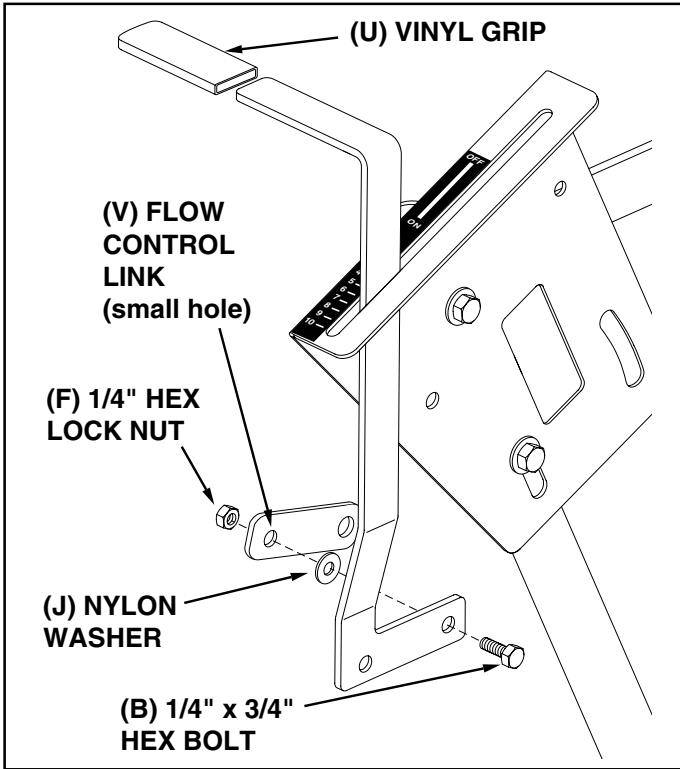

FIGURE 7
18. Assemble the vinyl grip (U) onto the flow control arm. See figure 7.
19. Insert the flow control arm down through the slot in the flow control bracket. Assemble the small hole of the flow control link (V) to the flow control arm using a 1/4" x 3/4" hex bolt (D), a nylon washer (J) and a 1/4" hex lock nut (F) as shown in figure 7. **Tighten carefully.** The flow control link should be snug but should pivot with no more than slight resistance.